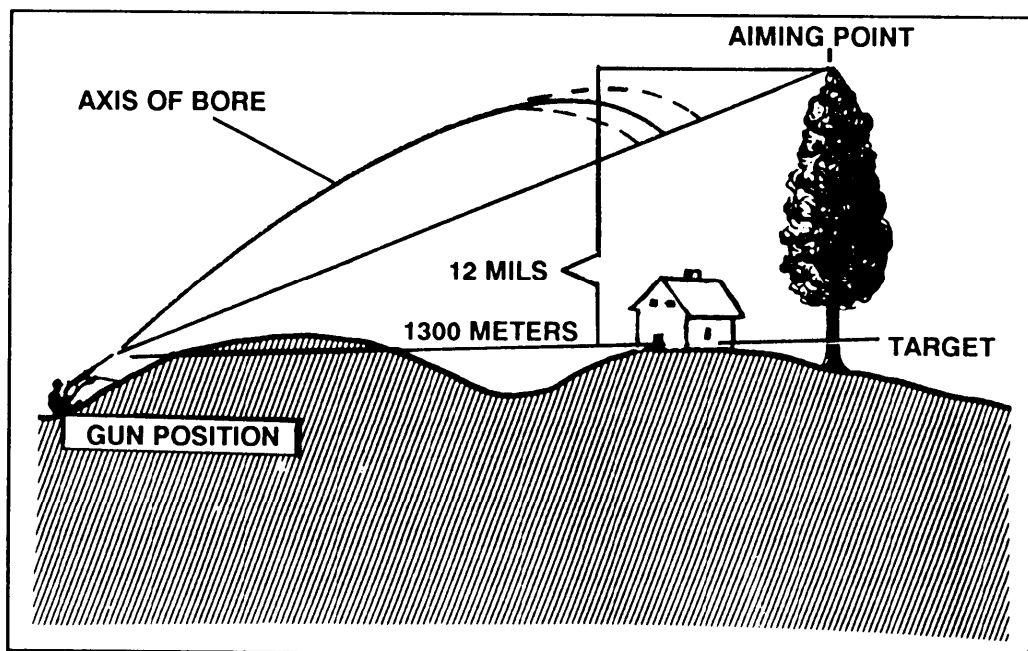

Figure 6-16. Aiming point method.
b. **Elevation.** An aiming point visible from the gun position is selected (preferably a point at a greater range and at a higher elevation than the target) and the range to the target is determined. The leader, using binoculars, measures the vertical angle in roils from the aiming point to the base of the target. He then lays the gun on the aiming point with the sight set to hit the target. He directs the gunner to manipulate the gun through the number of mils measured. For example, in Figure 6-16, the range to the target is 1,300 meters. The angle read with the binoculars from the aiming point down to the base of the target is 12 mils. The sight is set at 1,300 meters, the gun laid on the aiming point, and the muzzle depressed 12 mils. If the aiming point is off the gun-target line, deflection in mils may be taken with the rear sight windage screw knob if it is not over 5 mils; otherwise, the deflection must be taken up on the traversing handwheel.